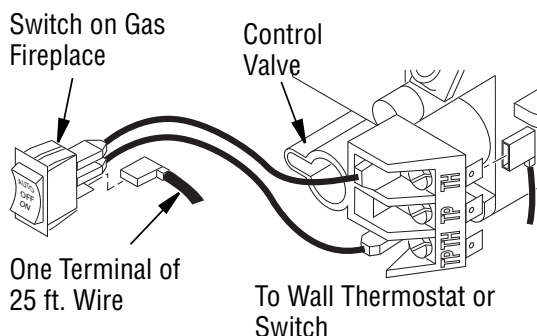

Figure 29 - Connecting Wire Terminals
1. Connect one terminal of 25 ft. wire to bottom contact of switch (see *Figure 29*).
2. Connect remaining wire terminal to "TH" terminal on control valve. Make sure that wire terminals are in the positions on your unit as pictured in *Figure 29*. If wires are not "crossed" thermostat will not work.
1. Connect one terminal of 25 ft. wire to bottom contact of switch (see **Figure 29, Page 21**).
2. Connect remaining wire terminal to “TH” terminal on control valve. Make sure that wire terminals are in the positions on your unit as pictured in **Figure 29, Page 21**. If wires are not “crossed” thermostat will not work.